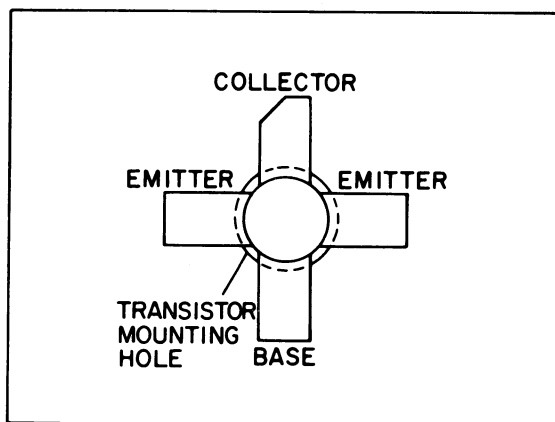

Figure 2 - Lead Identification
- (4) Trim the new transistor leads (if required) to the lead length of the removed transistor. Cut the collector lead at a 45° angle for future identification (see Figure 2). The letter "C" on the top of the transistor also indicates the collector.
- (5) Applying a coating of silicon grease around the transistor mounting surface, and place the transistor in the mounting hole. Align the leads as shown in the PA Outline Diagram. Then hold the body of the transistor and replace the holding-down nut and spring-washer, using moderate torque (8 inch-pounds). A torque wrench must be used for this adjustment since transistor damage can result if too little or too much torque is used.